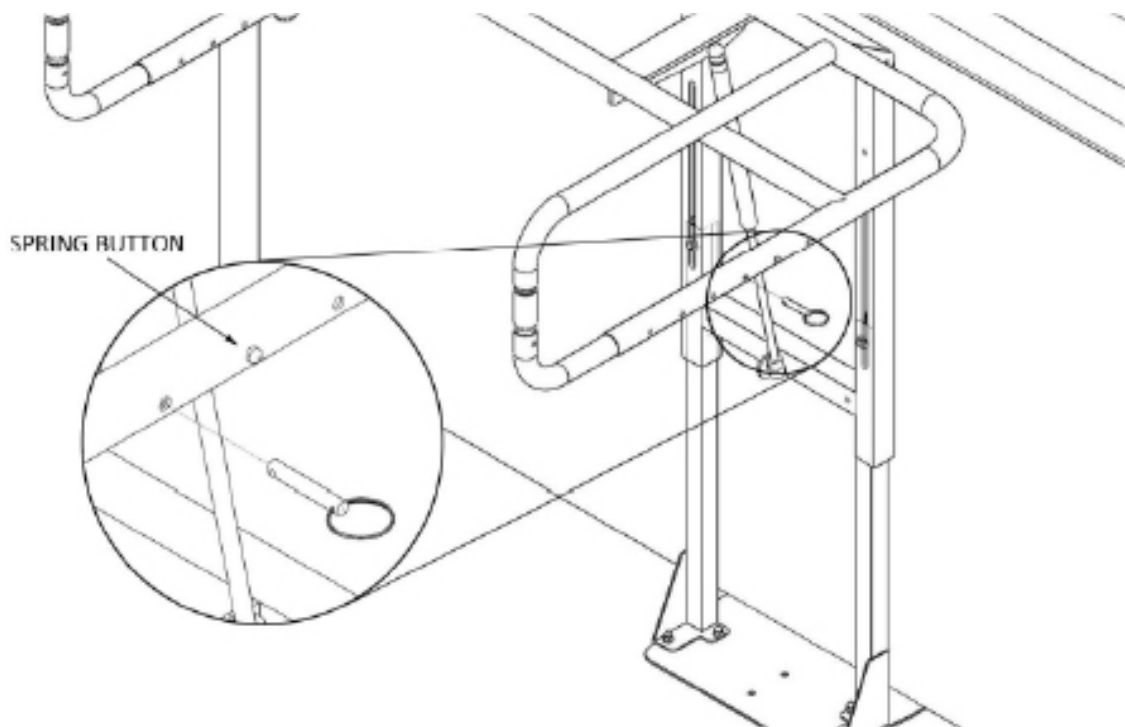

Figure 11
- 11 Push the ccF Pin through the hole directly underneath the spring button. Make sure the pin passes through the diagonal channel (not shown) on the U-Arm. See Fig 11.